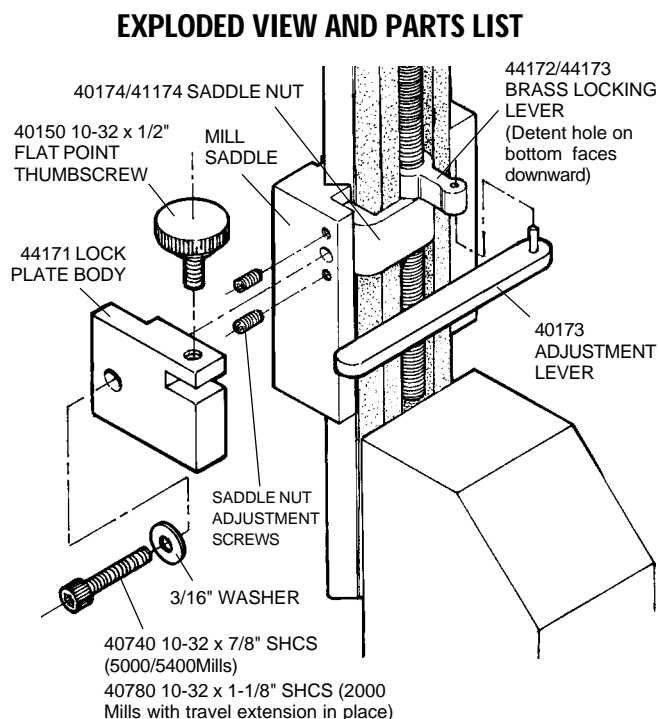

FIGURE 2—Exploded view shows saddle nut and locking lever installed on the leadscrew with the other parts of the Z-axis lock called out.
6. Using the appropriate new, longer socket head screw and washer for your mill as shown in Figure 2, feed the screw through the hole in the new locking plate, through the hole in the saddle and into the threaded hole in the saddle nut to reattach it.